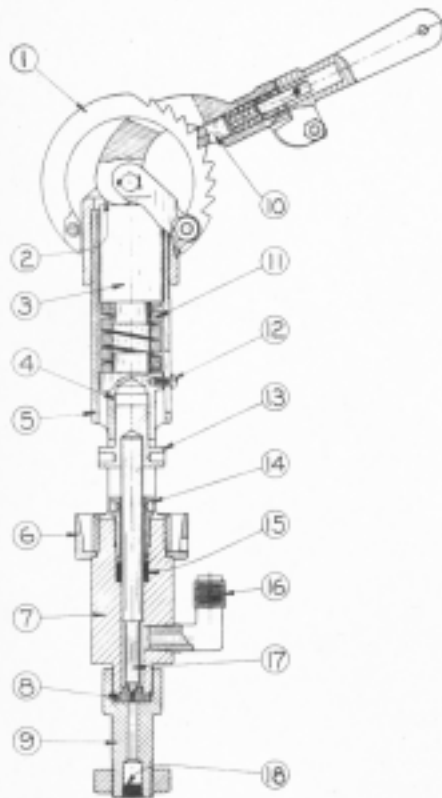

FIG. 0-3
Referring to Fig. 0-3 the regulating valve is built around valve body (7). The hardened steel valve seat (8) is held between the body and adapter stud (9) which screws on the bottom of the body and through which passage (18) allows the by-passed fuel to escape. Fuel inlet elbow (16) is threaded into the side of the body, supplying fuel to the annular space around the reduced section of the valve stem (17). The top of the body is bored to receive stem packing (15) and packing gland (14). Screwed to the top of the body is relief valve spring cage (5). This cage is screwed down upon the drain cup holding the latter in place against a shoulder on the body.